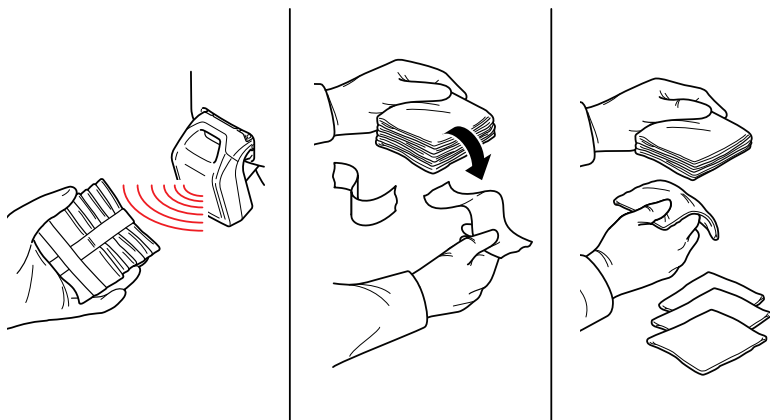

Figure 11 – Present Pack – Break Bands – Count Sponges
5. Break and discard the sponge pack bands (Figure 11).
6. Perform an audible manual count for each sponge (Figure 11).